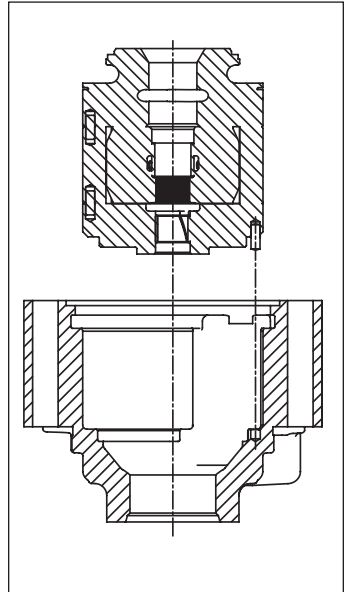

Figure 34
5. Remove cartridge from shaft (Fig. 34).